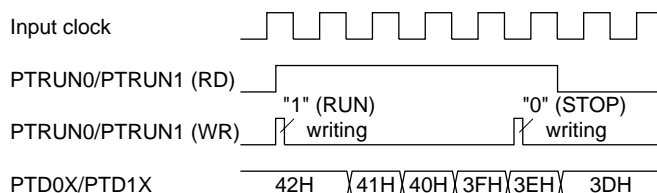

Fig. 5.2.1 Timing chart for RUN/STOP control
- (2) The programmable timer actually enters RUN/STOP status in synchronization with the falling edge of the input clock after writing to the PTRUN0/PTRUN1 register. Consequently, when "0" is written to the PTRUN0/PTRUN1 register, the timer enters STOP status at the point where the counter is decremented (-1). The PTRUN0/PTRUN1 register maintains "1" for reading until the timer actually stops. Figure 5.2.1 shows the timing chart for the RUN/STOP control.